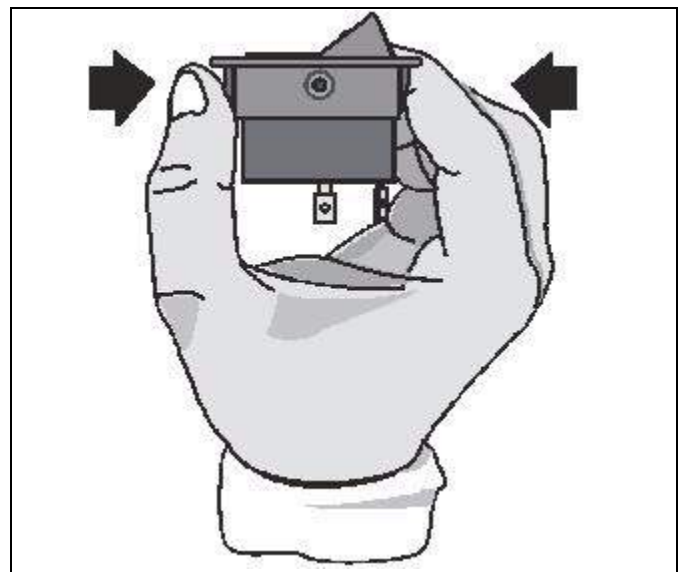

Figure 4-3 Rocker Switch Removal
3. The accessory on/off rocker switches are held by locking tabs. Compress the tabs on one side at a time to release the switch body, then push up and lift out of the slot. (See Figure 4-3)